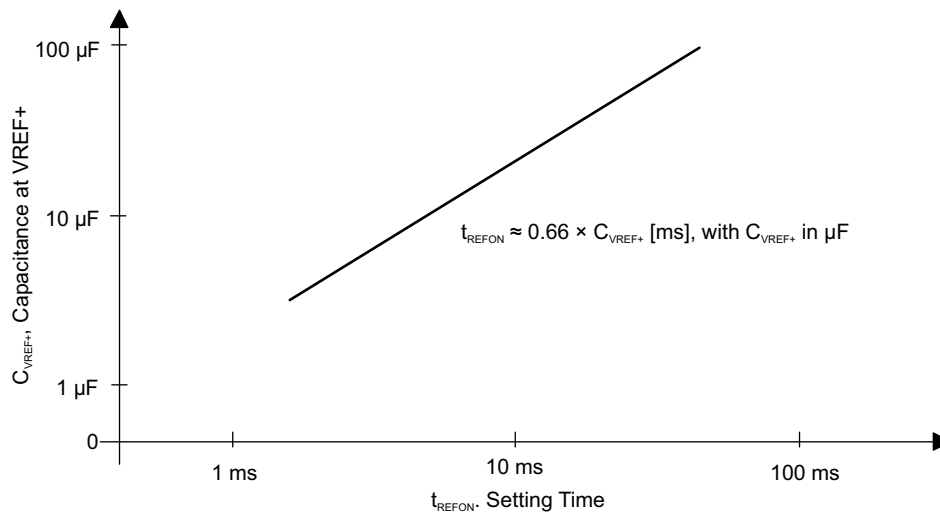

Figure 5-13. Typical Settling Time of Internal Reference (tREFON) vs External Capacitor on VREF+
| t REFON     | Settling time of reference voltage (4)(1) (see Figure 5-13) | I VREF+ = 0.5 mA, C VREF+ = 10 μF,V VREF+ = 1.5 V, V AVCC = 2.2 V                                     |                          |     |      | 17   | ms     |